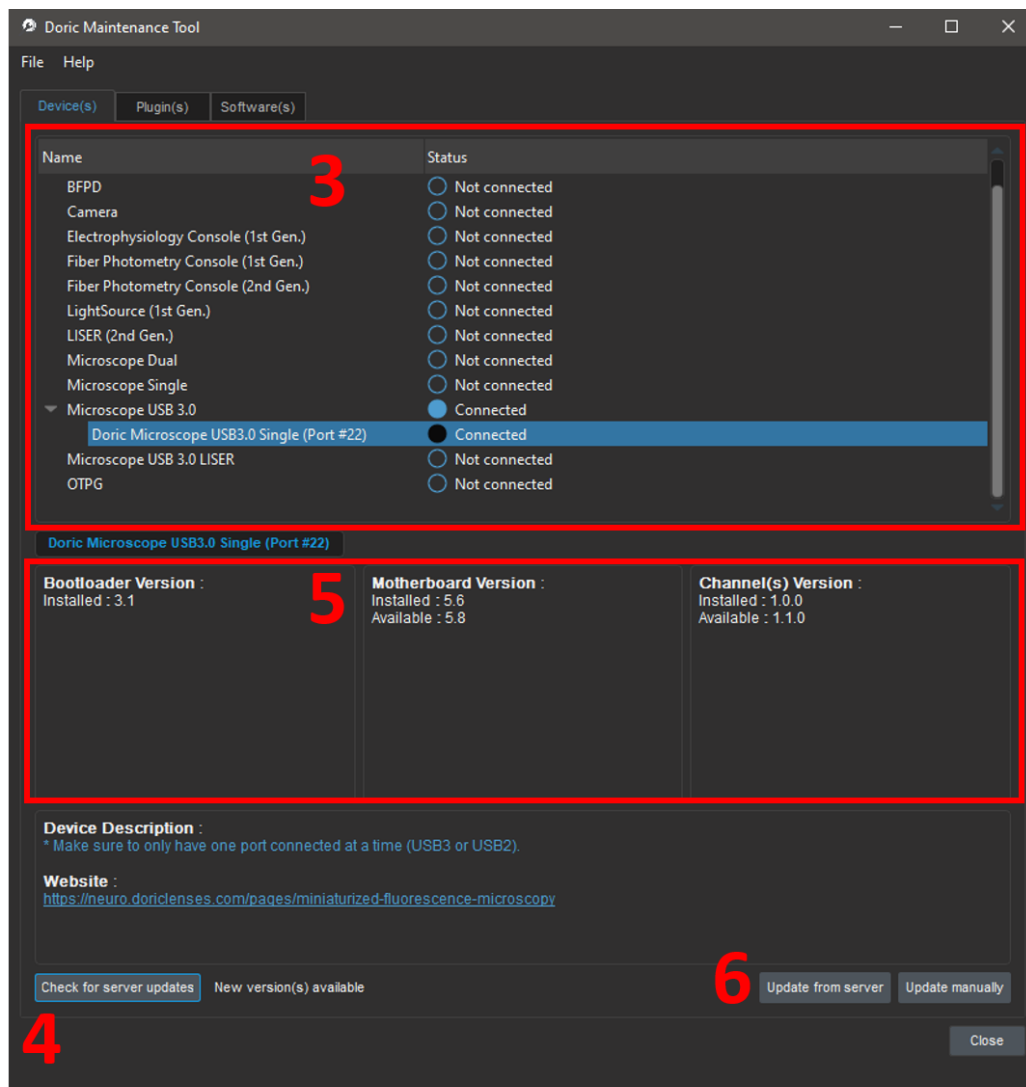

Figure 4.6: Doric Maintenance Tool home page
3. In the list under **Name**, select the device to update (its status need to be **Connected**) (Fig. 4.6).
4. Select **Check for server updates**. **Doric Maintenance Tool** will connect to the server and verify if an update is available (Fig. 4.6).
5. Under **Motherboard Version** and **Channel(s) Version**, the present version and the available versions are displayed (Fig. 4.6).
6. Select **Update from the server** to launch the update. (In some cases, an update can be necessary without using the server version. In this case, a representative of Doric Lenses will send you the update file and you can use **Update manually** instead of **Update from server**) (Fig. 4.6).